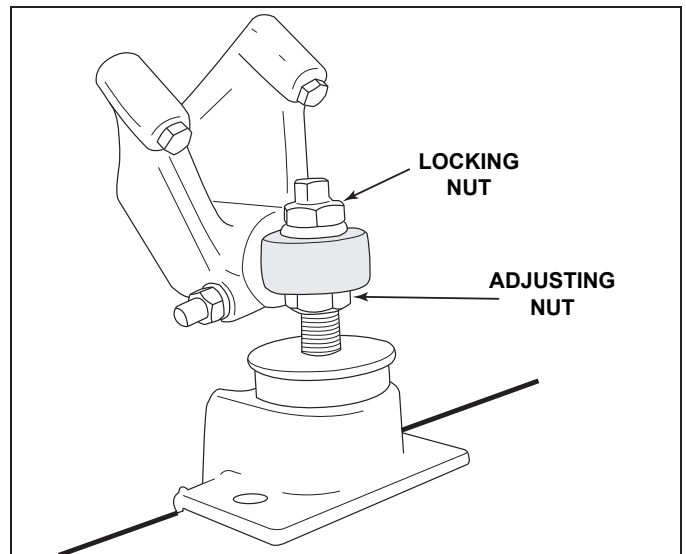

**Figure 11-26** Angular Alignment
**NOTICE:** Some propeller shaft couplings may not have a shoulder on the mating surface. On these installations, use a straight edge to check the centerline alignment (Figure 11-26).